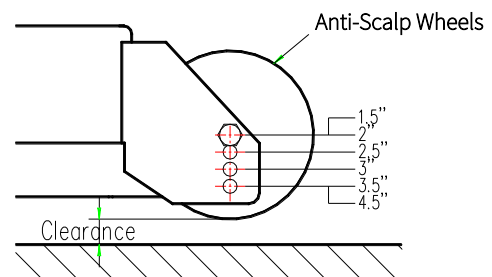

Fig. 12 Anti-Scalp Wheels
- g) Adjust the anti-scalp wheels on the deck according to the cutting height under normal operating conditions, as shown in Fig. 12. Stop the engine and wait for all moving parts to be stationary. In general, the clearance between the anti-scalp wheels and the ground shall be higher than 3/4" (19 mm) to prevent the anti-scalp wheels from wear and damage. To maximize the lifting of the deck, the anti-scalp wheels can be placed at a lower position, but the clearance between the anti-scalp wheels and the ground shall be at least 1/4" (6.4 mm). It is not recommended to support the deck with anti-scalp wheels, and it shall be ensured that the bolts are tightened, otherwise the anti-scalp wheels may be damaged.